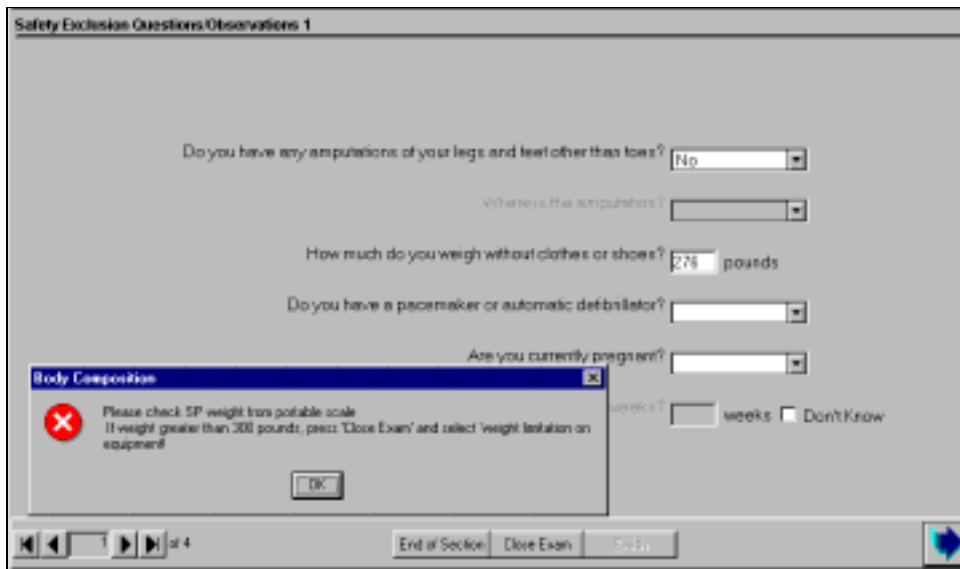

Figure 4-5. Shared exclusion questions (weight 1)
- If the answer to the question on self-reported weight is between 275 and 300 pounds, the system will display a message: ‘Please check SP weight on portable scale. If weight is greater than 300 pounds, press ‘Close Exam’ and select ‘weight limitation on equipment.’ See Figure 4-5.